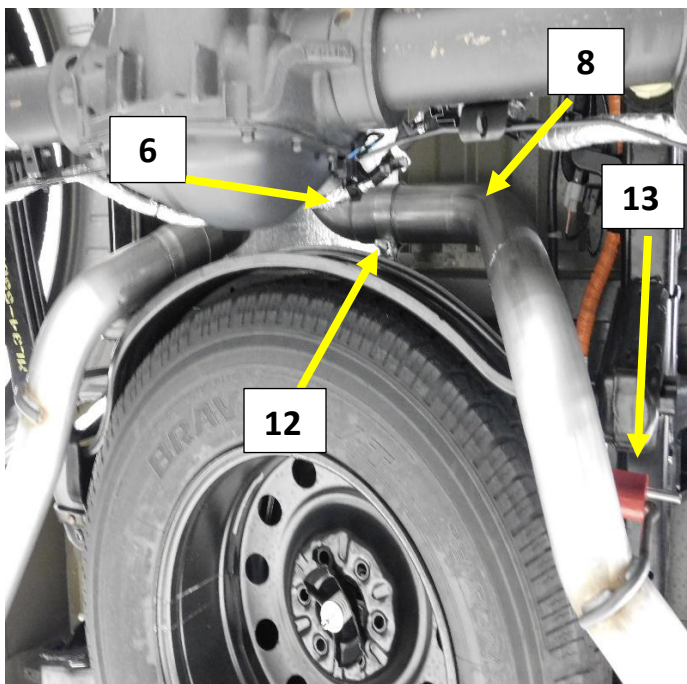

Figure.13
1. Install a 3" band clamp (12) on to the expanded end of the left Muffler outlet pipe (6). Install the 3" clamp (12) with the bolt towards the rear of the truck and the nut facing down. **Fig.13**
2. Install the Left Tail Pipe (8) into the Left Muffler outlet pipe (6), align the Hanger rods at the frame hanger and install the Red Isolator (13) (Use Spray lube on the rods). **Fig.13** - Tighten the clamp to allow for adjustment.